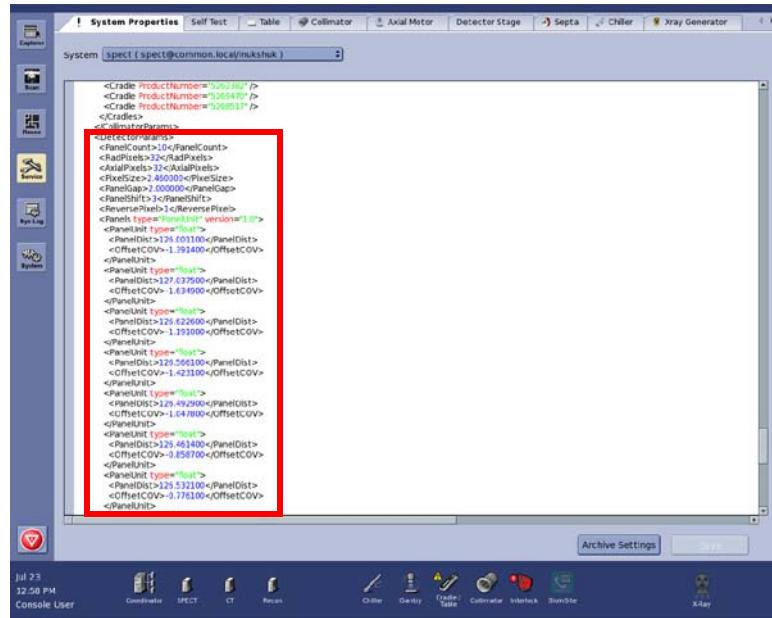

Figure 7-35
- 13.) Enter the ten pairs of detector parameters, obtained from GE Healthcare in step 9, after <DetectorParams> in System Properties (boxed area in Figure 7-35).